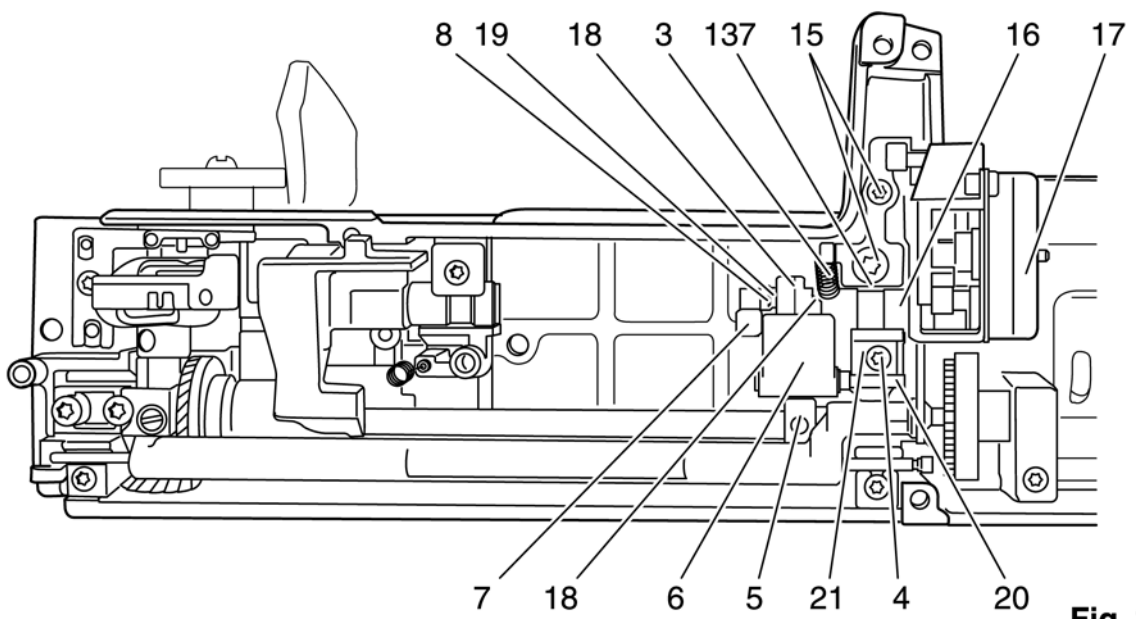

Fig. 107
- Remove tension spring 3 (fig. 107).
- Insert feed stepping motor 17 complete with the bracket (fig. 107).